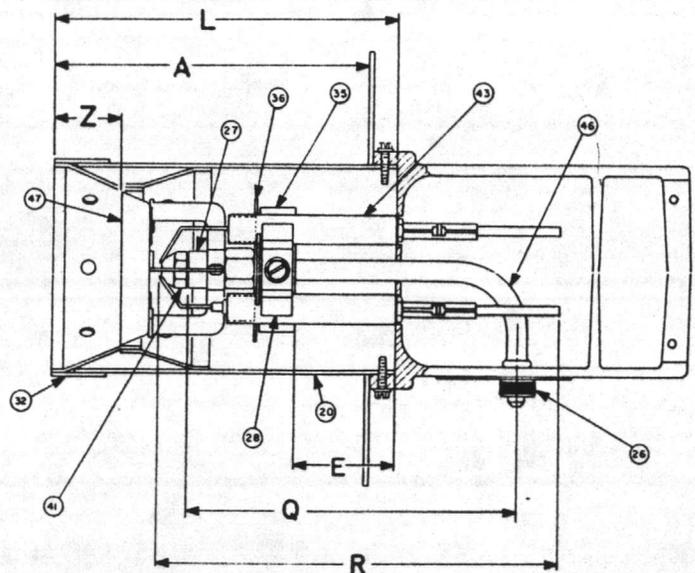

FIG. 5
- a) Insert 'nozzle line electrode head assembly' into tube using the "Z" dimension shown in FIG. 5 to position the assembly.